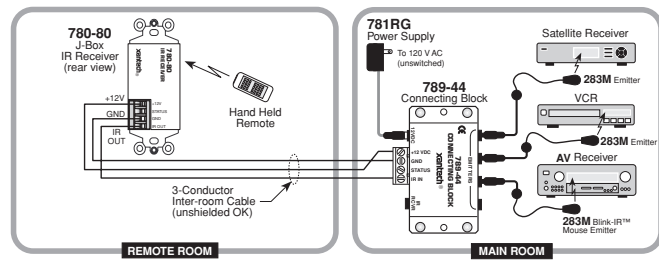

Fig.2 780-80 Basic IR Repeater System
- Make connections to a Xantech connecting block, power supply and emitters as shown in **Fig. 2** - a typical basic system: